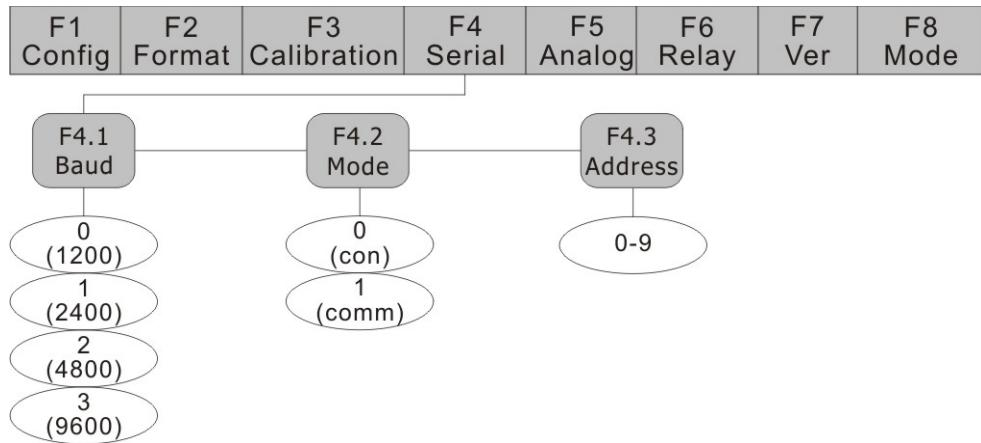

Fig.7-1 F4 Serial Communication Menu
- (1) Set indicator to the Configuration mode (display shows “F 1”)
- (2) Press **【TARE】** until display shows “F 4” (see Fig. 7-1). Press **【ZERO】** to go to F4 Menu. Display shows “F4.1”.
- (3) When display shows “F 4.1”, press **【TARE】** until display shows “F4.2”.
- (4) When display shows “F 4.2”, press **【ZERO】** to show serial communication code. Use **【TARE】** to set serial communication code to 0 (data transmitted continuously), press **【ZERO】** to save.